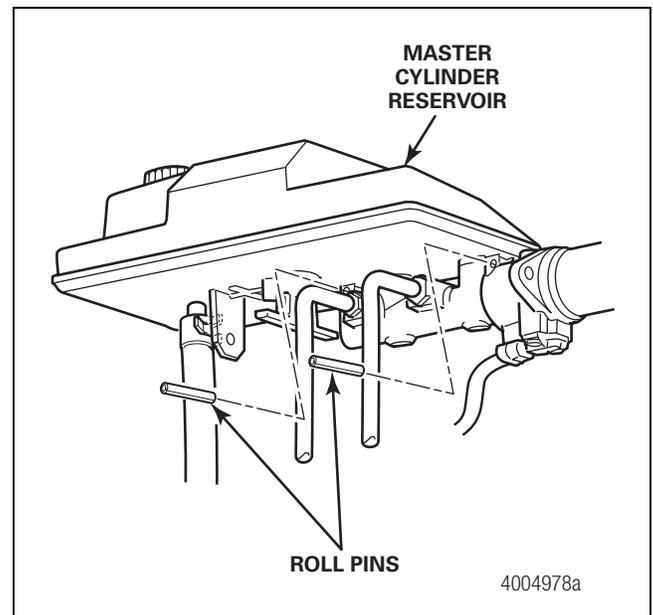

Figure 4.40
- C. Install two new roll pins from the replacement kit. Drive the pins through the holes in the master cylinder boss and the reservoir mounting tab holes. Support the back of the tabs as you install each pin. Figure 4.40.